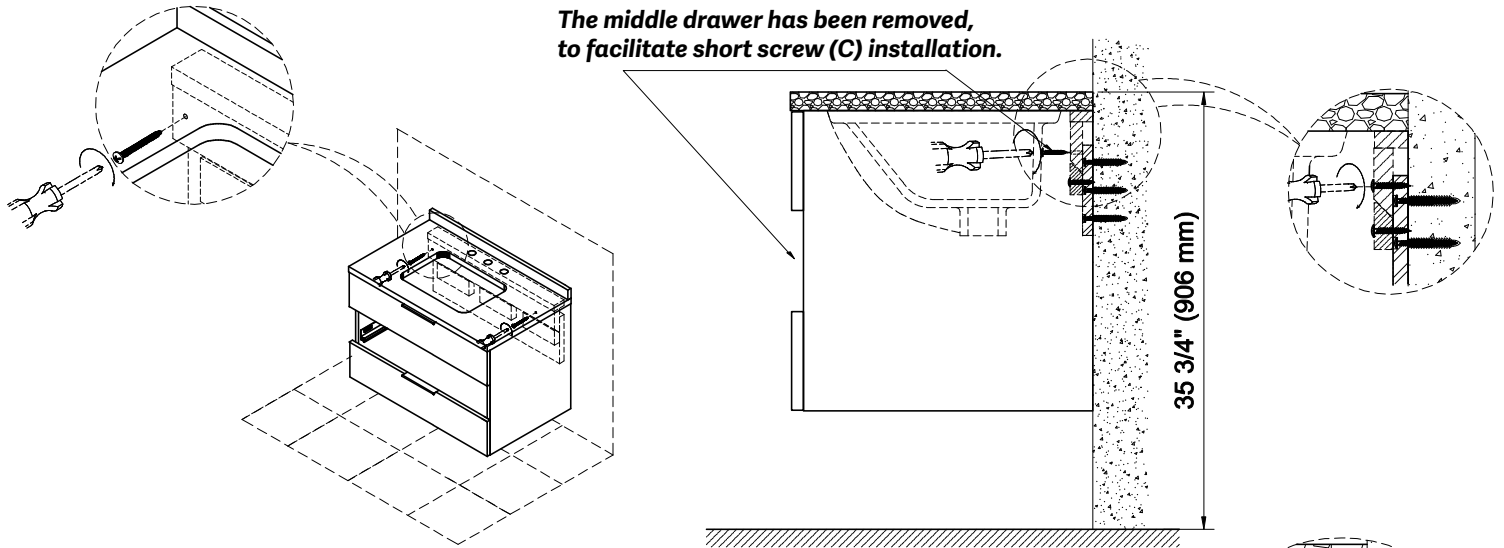

Figure 5
- Drive short screws (C) through the two holes located on the Vanity Hanging Rail. See Figure 5.